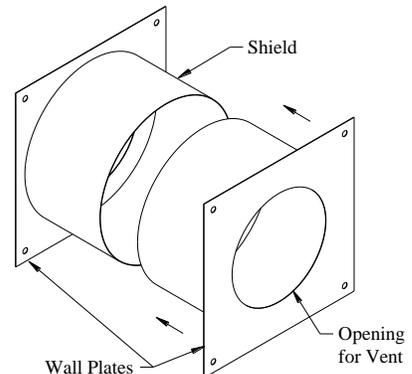

Fig 12. (Wall Thimble)
The Wall Thimble (WT) is used when the vent pipe passes through a wall (See Fig. 12).